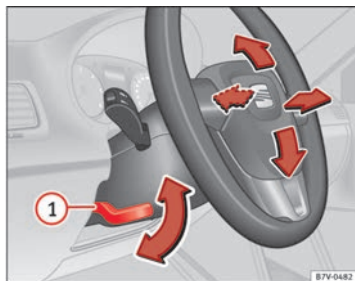

Fig. 127 Mechanical steering wheel adjustment
- Push the lever ⇒ Fig. 127 ① downwards.